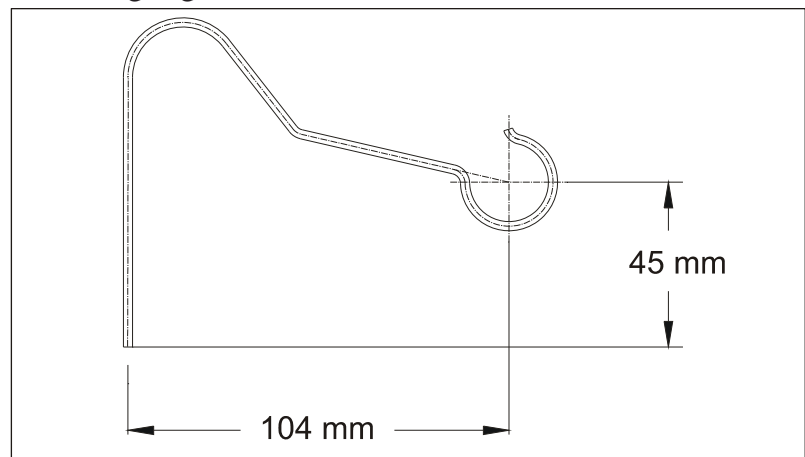

Figure 18 Float Wire Adjustment
Figures 18 and 19 are mirror inverted also valid for the float wire in the RH wing tank if the optional MVP-50P is installed.
- 2 Remove the float wire and bend it in form like shown in the following Figure 18: